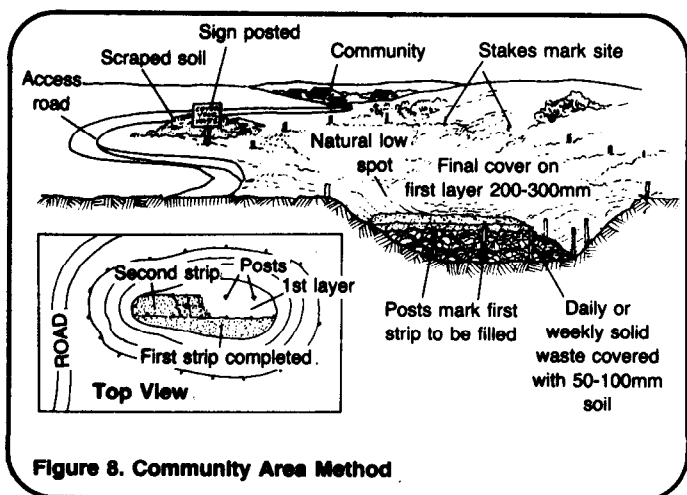

Figure 8. Community Area Method
1. Using the location map, design drawings, and measuring tape, locate the site and mark the boundaries of the depression or low spot with wooden stakes. See Figure 8.
4. If the depression is to be filled in strips or layers, set posts, poles, or long sticks to mark the boundaries and height of the first layer or strip. See Figure 8.
8. As each portion of the layer or strip nearly reaches the design height, cover with 200-300mm of soil and extend the access road onto the filled portion. Wheel the carts or vehicles over the filled area and dump waste at the working face of the layer or strip. If necessary, lay down logs, bamboo matting, or equivalent, to prevent vehicles from sinking in. See Figure 8.